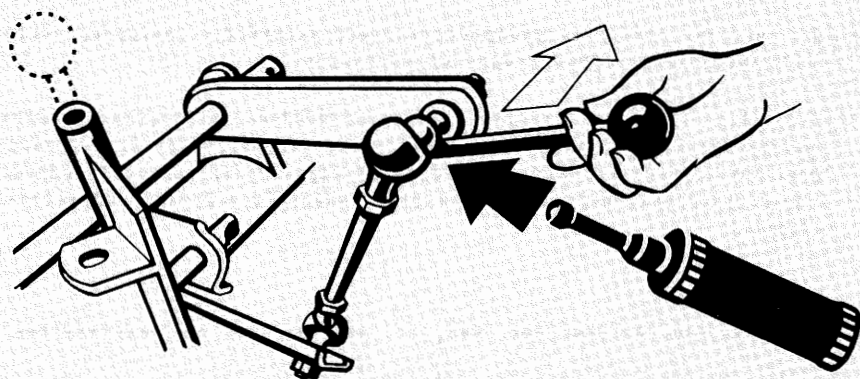

Fig. 9.1
2. At certain intervals slacken **ball joints** of the shutter linkage (Fig. 9.1) (with the aid of the actuating rod), **clean** and **grease!**